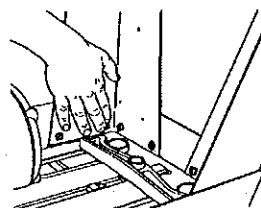

Fig.A-9
12. Working on the carriage end of the Power Station now, hold a leg in place while you insert a screw (2) through the base (11) and leg (5), securing it with a star washer (4) and a nut (3). Repeat this for each hole. Finger tighten. See Fig.A-9.